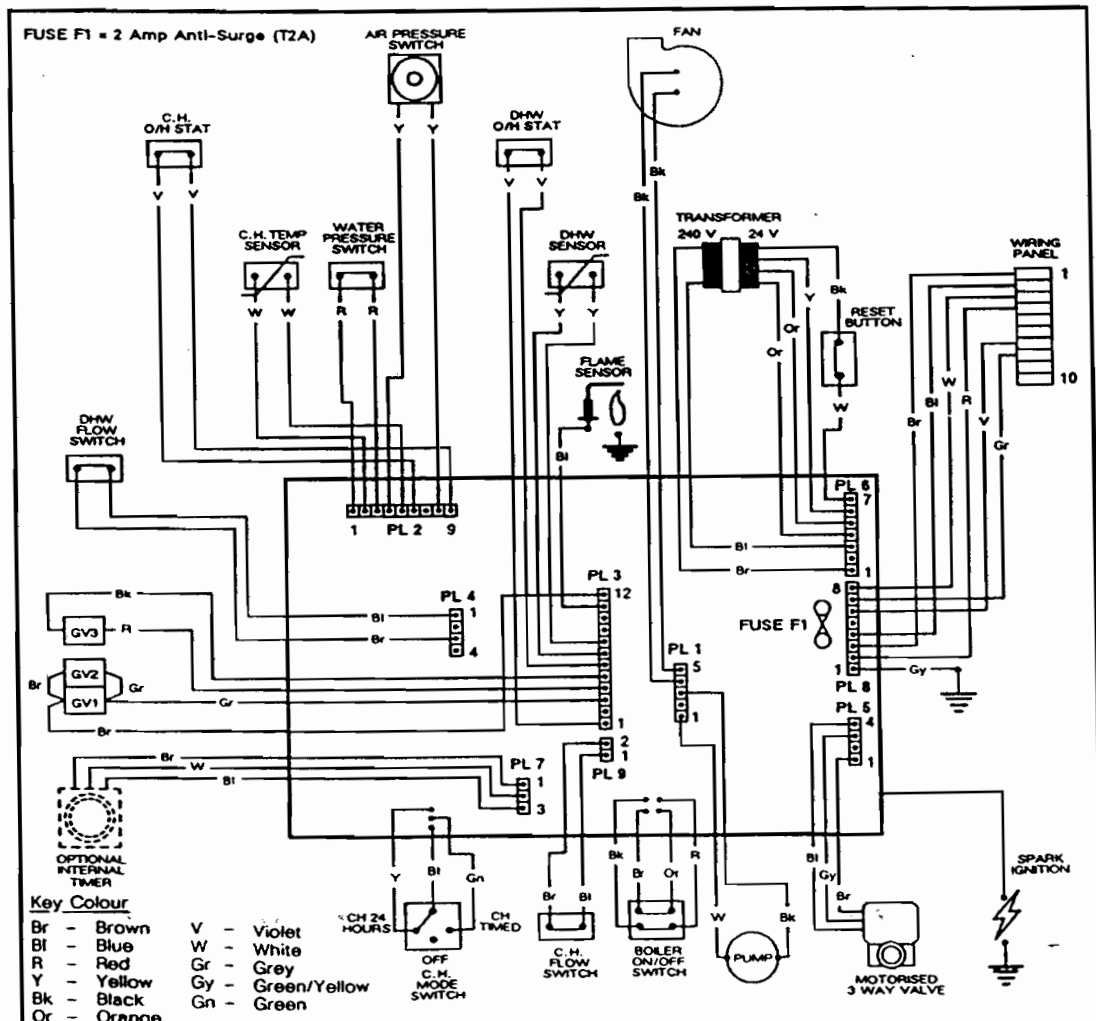

Fig. 16 BOILER WIRING DIAGRAM
6. WIRING THE APPLIANCE (See Fig. 16)
The internal wiring of the appliance is shown in Fig.16. The wiring diagram is also on the inside of the casing wrap.